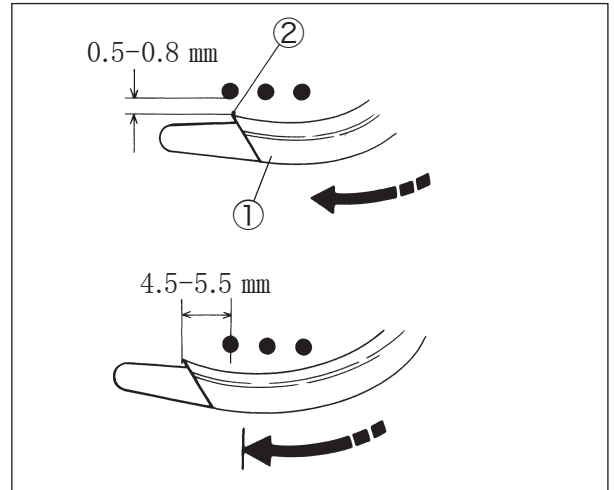

Fig. 6-11
- (2) Make the clearance between the left needle and the hook ② of the spreader ① 0.5 to 0.8 mm. (Fig. 6-11)
- (3) Make the clearance between the center of the left needle and the hook ② 4.5 to 5.5 mm when the spreader ① is at the extreme left. Then tighten the screw ④ securely. (Figs. 6-11, 6-12)